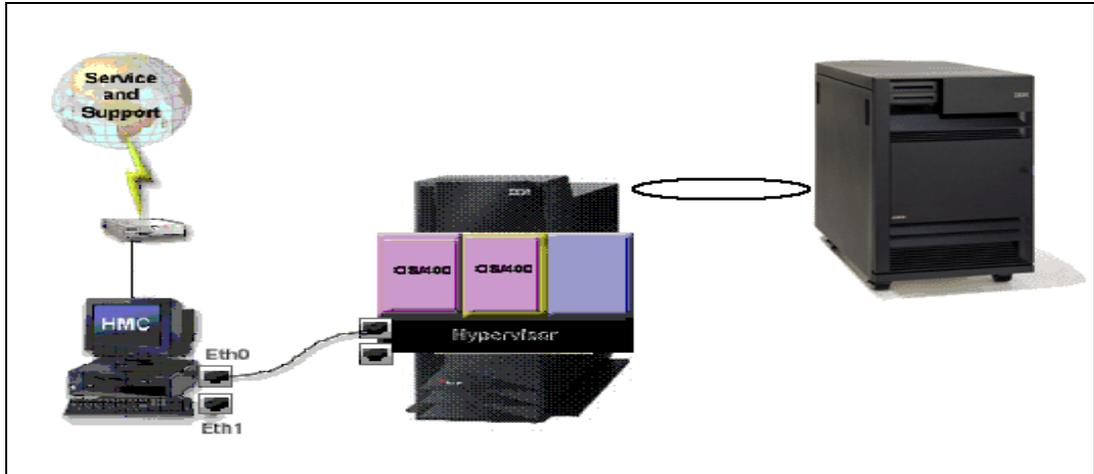

Figure 9-39 520 with migrated partitions
4. After the LPAR configurations are migrated (Figure 9-39), correct any resource reallocations resulting from P0/Primary being reassigned. Allocate new hardware resources as required. Validate the new Pn+1 partition (former primary) against the configuration and resource allocation documentation gathered in early steps. Refer to Chapter 5, “Partition creation using the HMC” on page 139, for detailed instructions for allocating resources and creating new partitions.